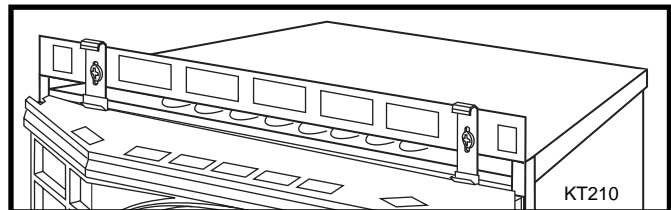

Fig. 51 Hang the window grille or the steel frame onto the lower tabs for the hanging brackets.
4. Install the bay window by hanging it onto the lower tabs of the hanging brackets, as shown in Figure 51.
5. Install the bay window by hanging it onto the lower tabs of the hanging brackets, as shown in Figure 51.